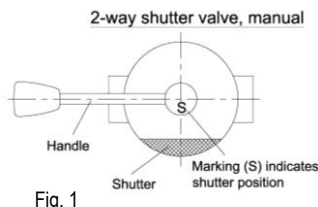

Fig. 1
- With the manual 2-way shutter valve, the parallel position of the handle to the valve ports indicates that the valve is open for product flow; the marking (S) on the handle base indicates the shutter position (see Figure 1)